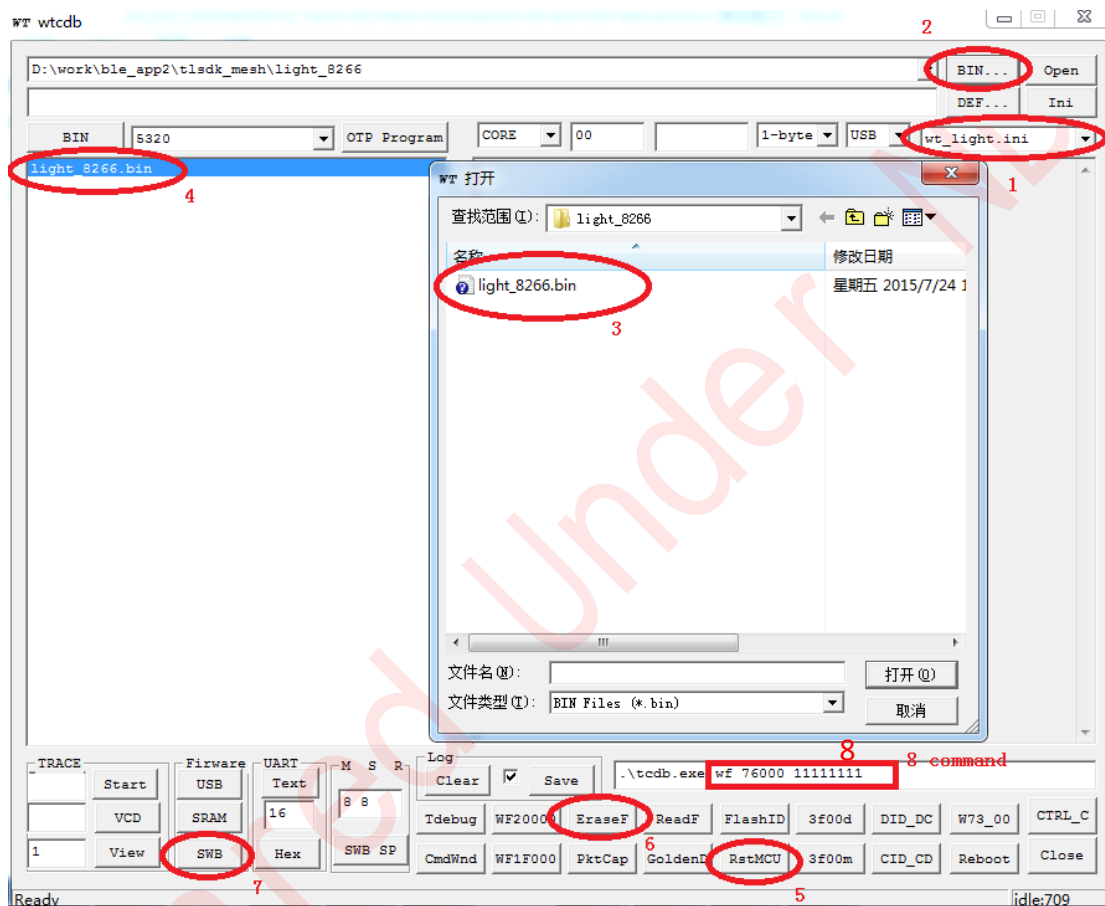

Figure 7 Light bin file burning example
- 2) Open the WtcdB tool on PC side, and select "**wt_light.ini**" in the drop-down box as shown in mark 1 of **Figure 7**.
- 3) Click the "**BIN**" button (as shown in mark 2 of **Figure 7**) and select the directory containing the light_8266.bin (as shown in mark 3 of **Figure 7**). All BIN files (including the light_8266.bin) within the directory will be available in the left window.
- 4) Select the "light_8266.bin" in the left window, as shown in mark 4 of **Figure 7**.
- 5) Click the "RstMCU" button (as shown in mark 5 of **Figure 7**) to reset MCU of the BLE light module.
- 6) If this is the first time the module is being programmed, click the “EraseF” button (as shown in mark 6 of **Figure 7**) to erase the Flash of the BLE light module. If this is not the initial burning and various ID information of the light module need to be retained, this step should be skipped.
- 7) Click the “SWB” button (as shown in mark 7 of **Figure 7**) to download the light_8266.bin into **Flash** of the BLE light module.
Successively enter corresponding write MAC_ID and read MAC_ID commands in the command window (as shown in mark 8 of **Figure 7**), and click the “Enter” key to execute the command.